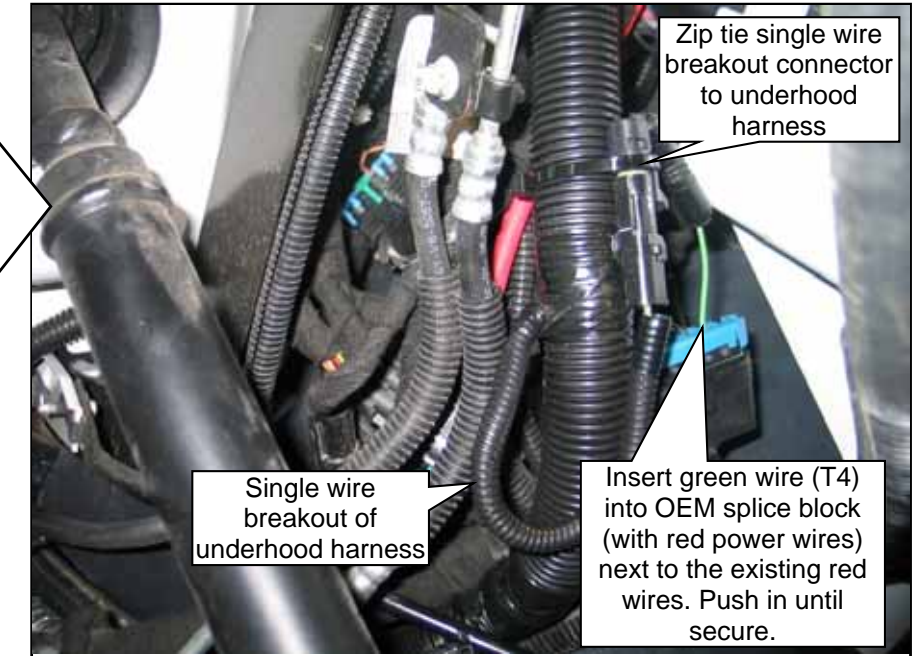

Figure 18.2
10. Insert the open terminal end of the green single wire breakout (T4) (Key On, ignition wakeup) into the Ford splice block (with existing red power wires). Push the open terminal into the splice block until secure. Zip tie the connector of the single wire breakout connector to the underhood harness. **Note:** Do NOT use the second splice block having black ground wires. **Figure 18.2.**